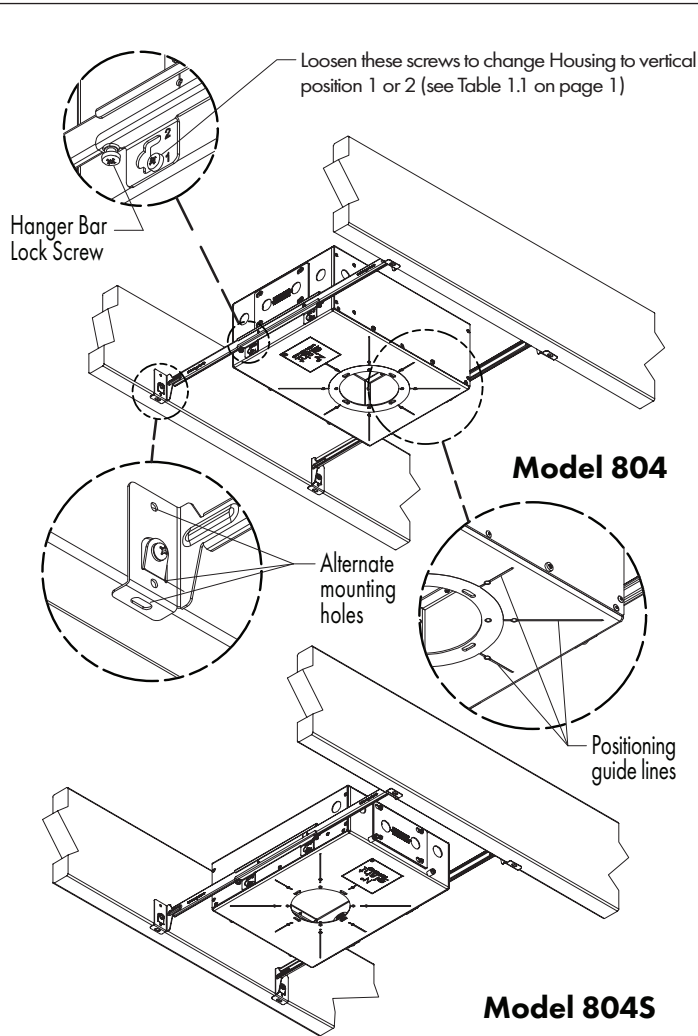

FIG 5.1 Fastening Housing to joists
STEP 1 Spread Hanger Bars to approximate joist spacing. Temporarily secure Lock Screws to keep Housing from sliding along Hanger Bars – **FIG 5.1 & 5.2.**
STEP 2 Secure Housing & Hanger Bar assembly to Joists using either the fasteners supplied on Hanger Bars or fasteners through alternate mounting holes – **FIG 5.1.**
STEP 3 Reposition Housing along Hanger Bars as needed. Use guide lines to help locate Housing relative to nearby walls or other fixtures – **FIG 5.1 & 5.2.**